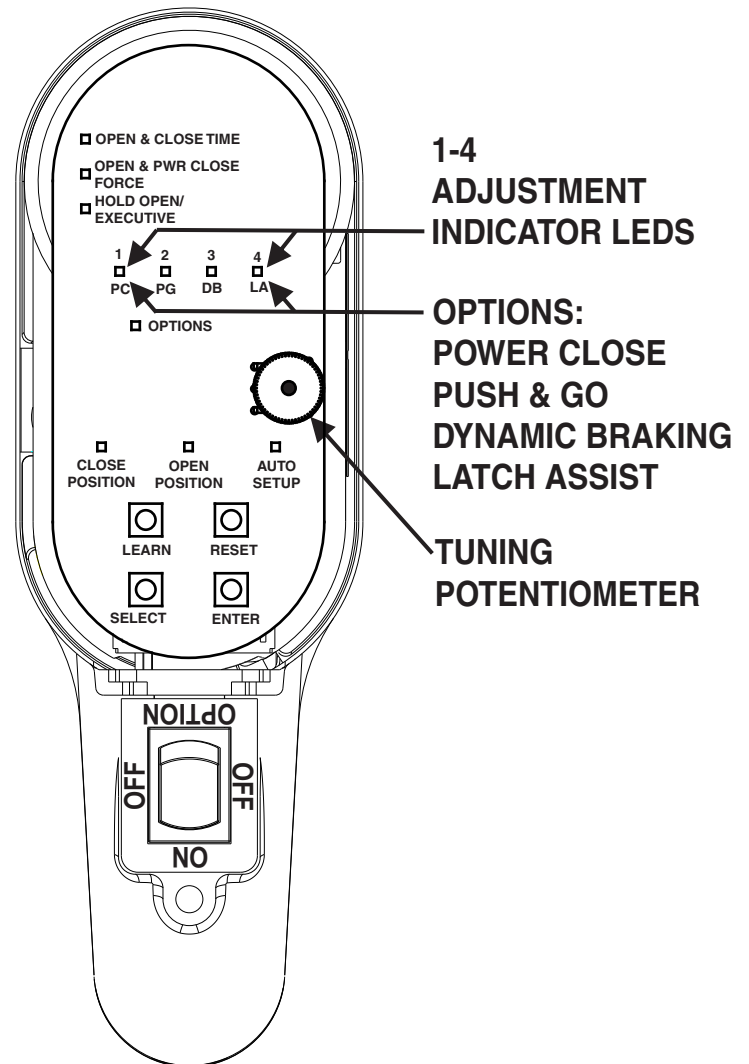

Figure 3
2. Refer to Figure 3. PRESS and HOLD the LEARN button and PRESS and RELEASE the RESET button on the setup board.
1. Refer to Figure 3 and PRESS and HOLD the LEARN button until on the Operator Control board until LEDs DS8-DS11 Flash Green.